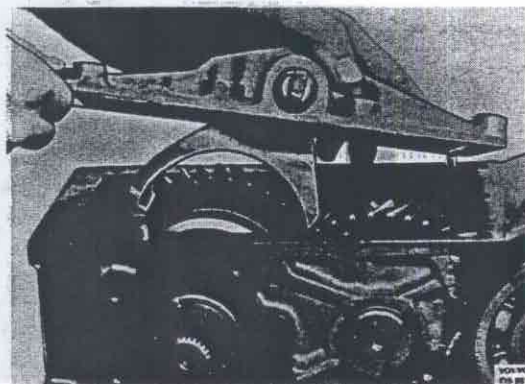

Fig. 43-148. Removing cover
6. Remove the cover on the auxiliary gearbox, Fig. 43-148.